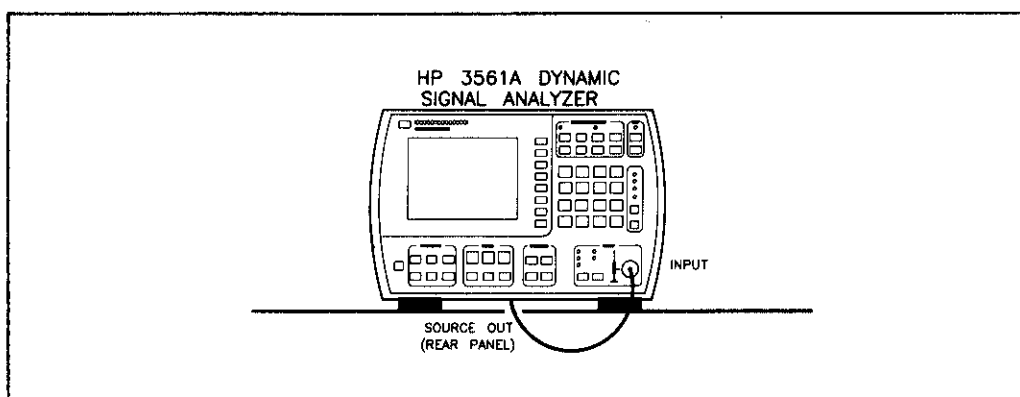

Figure 13. A3 Ground Isolation Reference Setup
7. Connect the instruments as shown on the display and in figure 13. This sets up a reference for the following measurements.